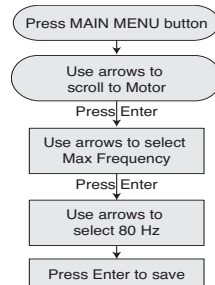

Figure 11 - Select 80 Hz (3-phase submersible operation only).
- B. Follow the keypress sequence shown in Figure 11.
Press *Main Menu* and follow the keypress sequence shown in Figure 11. Be sure to press *ENTER* to save the new *Max Frequency* selected. The Drive will now use the new value selected.